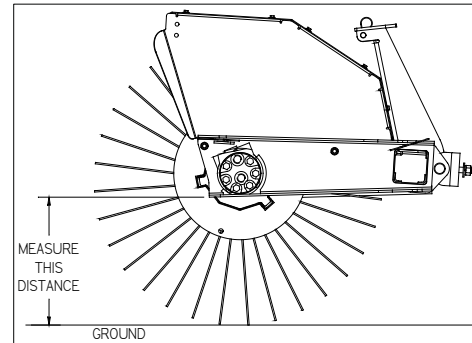

figure 2
5. With the brush head assembly straight ahead, measure from each end of the brush frame tubing to the ground (figure 2).